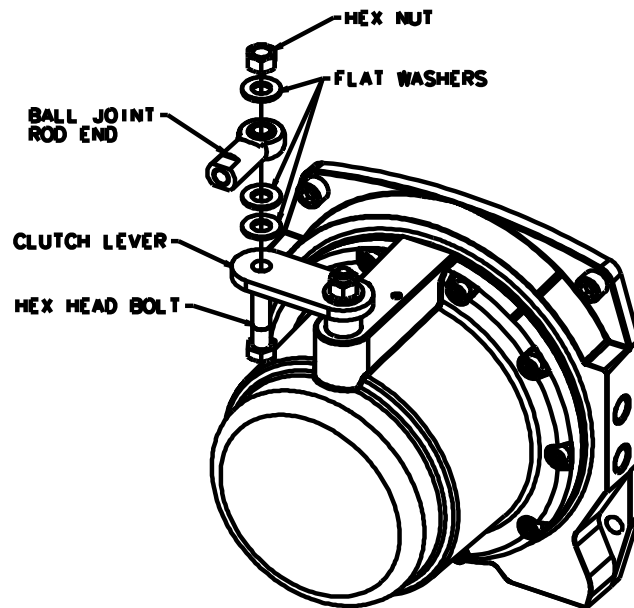
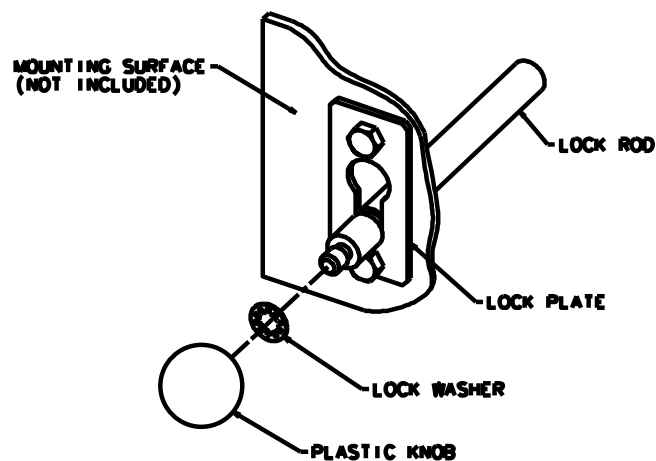

**FIGURE 5**
**FIGURE 6**
- Align the detent mark on the clutch shaft toward the drum of the winch. This will place the winch in the "Free Spool" position. Holding the clutch shaft in place, attach the clutch lever in the "Free Spool" position using a 3/8" flat washer and 3/8-16 hex nut. (See **Figure 5**). The clutch lever should always travel through a 180 degree arc from "Engaged" to "Free spool" positions as shown in **Figure 6**.
14. Thread the clutch rod into the ball joint rod end and tighten with the appropriate hex nut. Attach the lock rod to the clutch rod and lock with the hex nut. (See **Figure 9**). Adjust the length of the clutch rod so the clutch lever travels through the correct arc. (See **Figure 6**). The clutch lever must not be forced past the travel stop, since this will result in internal damage to the unit.
16. Test the operation of the assembly. The control should move freely through the correct travel arc; there should not be interference between the lock nuts on the clutch shaft and clutch rod. The decal can be applied to the mounting surface as shown in Figure 9, only if the clutch is "Engaged" with the control pushed in. (See Figure 6)